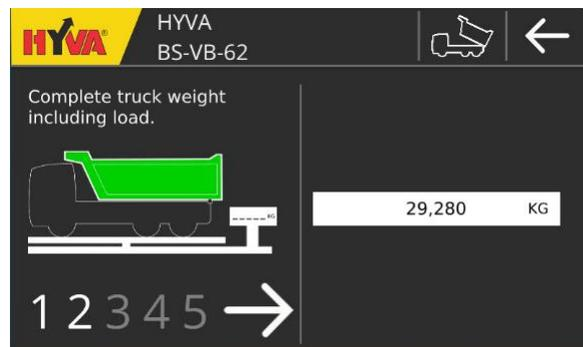

FIGURE 12 PAYLOAD CALIBRATION - STEP 2
Step 2 (Figure 12): fill in the total weight of the truck with payload. Enter the total weight in the text box.